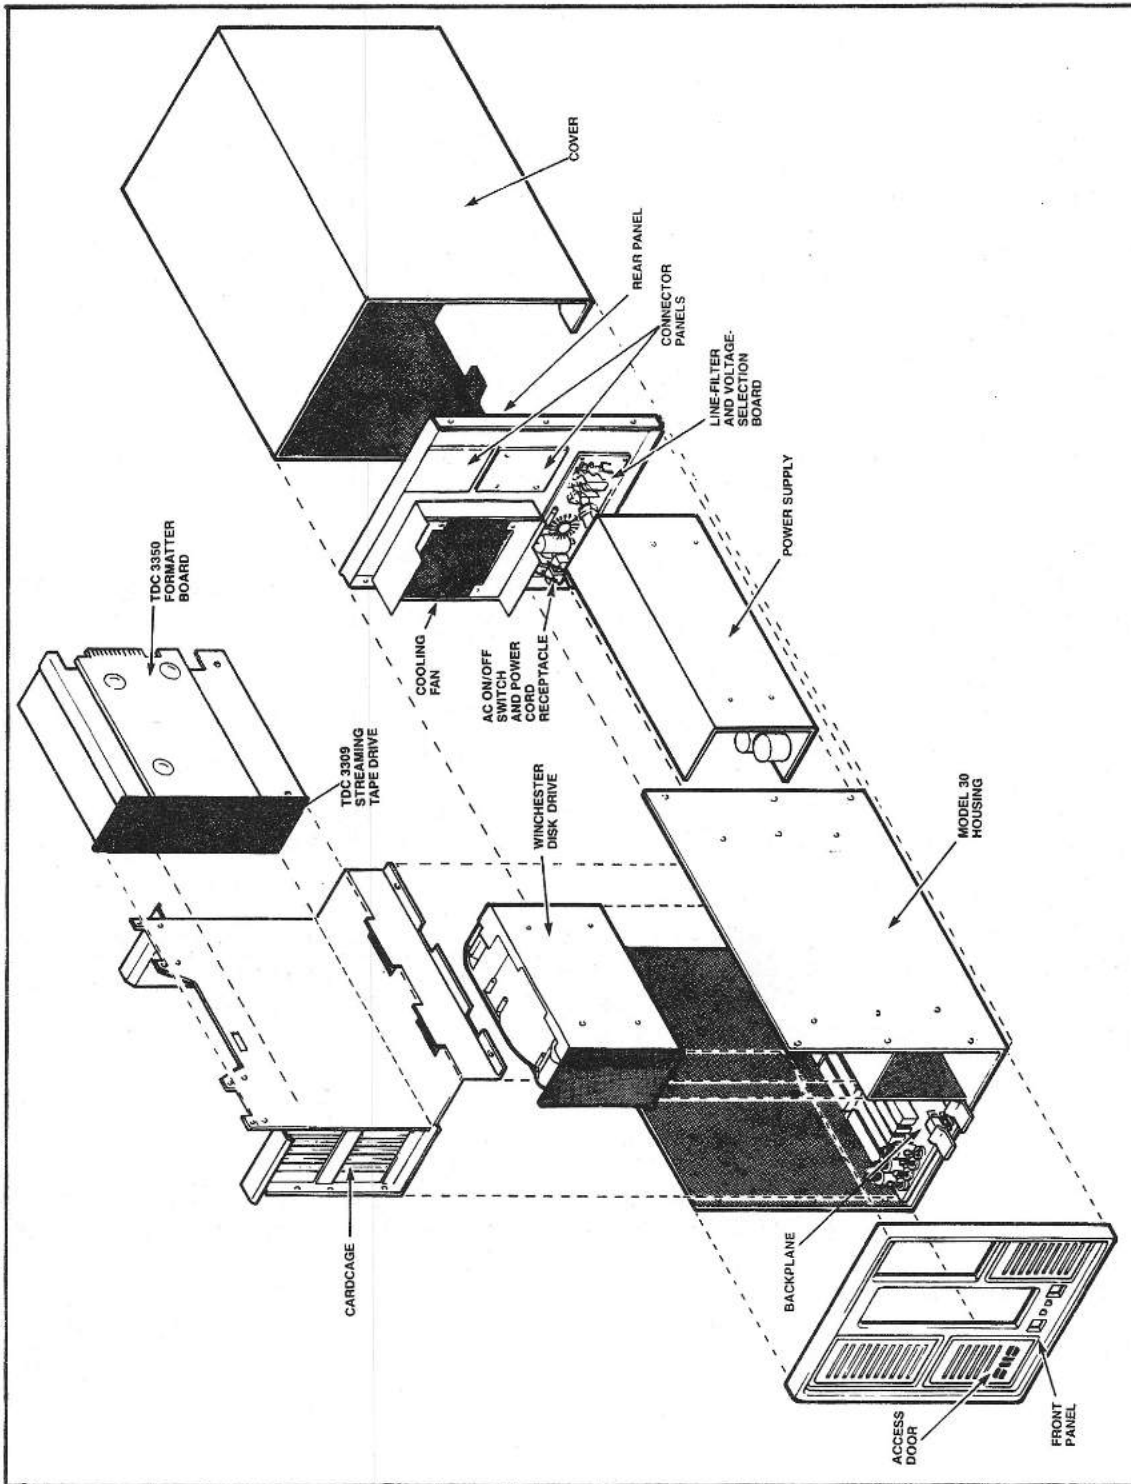
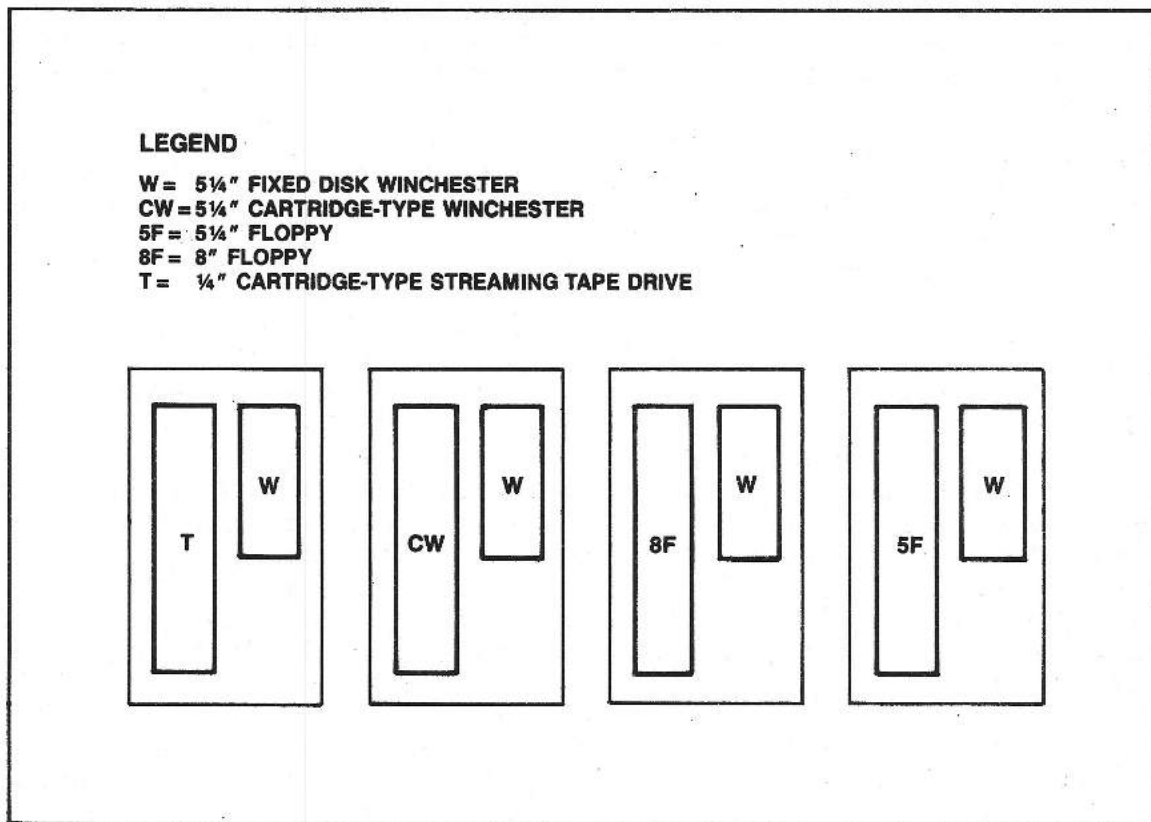

Fig. 1-2 Disassembly of SMS 1000 Model 30
Fig. 1-3 SMS 1000 Model 30: System peripheral options
A disassembly view of the units that make up the SMS 1000 Model 30 is shown in Figure 1-2. The system is designed for ease of disassembly. All fasteners attaching units to the frame are easily releasable by a standard screwdriver. See Figure 1-3 for a diagram showing the four possible peripheral options available with the SMS 1000 Model 30. The units that make up the Model 30 are described as follows:
1. ENCLOSURE, FRONT PANEL AND REAR PANEL. The enclosure (see Figure 1-2) contains mounting brackets for the backplane, card cage, power supply and peripheral devices. A door in the front panel opens to allow access to self-test switches and indicator LEDs.
3. POWER SUPPLY (Figure 1-2). The power supply is contained on a single chassis located in a shielded section of the system enclosure. It provides regulated +5 volts, +12 volts and +24 volts for all system components.
5. 8-INCH FLOPPY DRIVE. An 8-inch floppy drive can be selected as an option in your SMS 1000 Model 30. This and other floppy drives used in this system are of the slim-line (i.e. half-height) design. The 8" floppy drive always connects to the SMS 0107 controller through a 50-pin-to-34-pin adapter so as to be compatible with the 5 1/4" floppy interface. See Figure 1-3 for a diagram of all currently available SMS 1000 Model 30 peripheral configurations.
6. 5-1/4-INCH FLOPPY DRIVE. The SMS 1000 Model 30 can accommodate an optional 5-1/4-inch, half-height floppy drive, as shown in Figure 1-3.
The power supply for the SMS 1000 Model 30 (Figure 1-2) is contained on a single chassis that supplies all voltages to the backplane, to all peripherals, and to the cooling fan. In addition to the 4-amp circuit breaker that is part of the a-c ON/OFF switch, the power supply is also protected by its own 5-amp fuse. The input a-c power source can be in either of two selected ranges: 90 to 130 volts or 180 to 250 volts. The input frequency can vary from 47 Hz to 63 Hz without causing a degradation of output. The power supply has both overvoltage and overcurrent protection features.